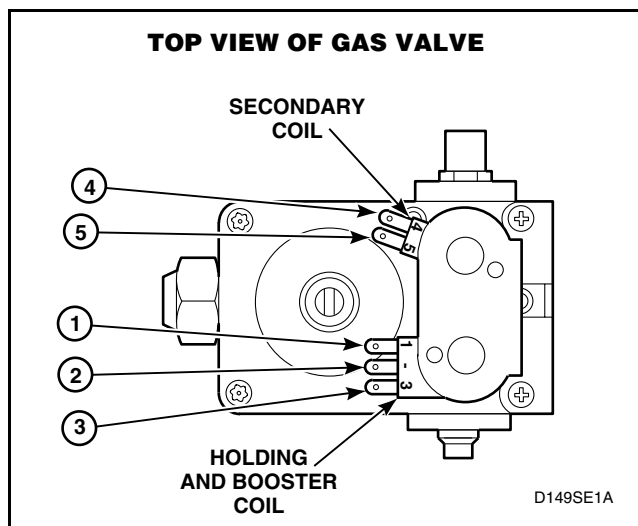

Figure 38
- a. Holding Coil (Refer to *Figure 38*) – Terminals 1 and 2 - Meter should read  $1365 \pm 25$  Ohms.
- b. Booster Coil (Refer to *Figure 38*) – Terminals 1 and 3 - Meter should read  $560 \pm 25$  Ohms.
- c. Secondary Coil (Refer to *Figure 38*) – Terminals 4 and 5 - Meter should read  $1220 \pm 50$  Ohms.